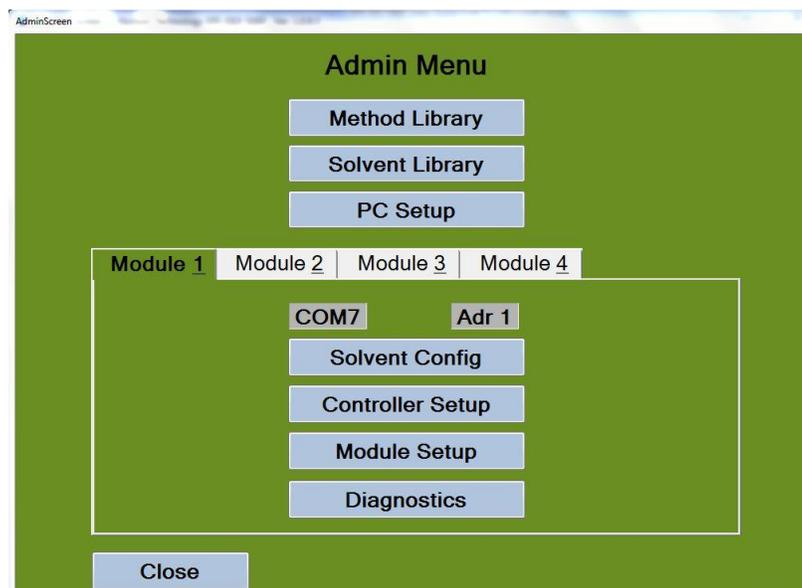

Figure 5-16. Admin Menu Screen
Step 1: Click **Admin Menu**. The Admin Menu screen is displayed in Figure 5-16:
- Step 2:** Click the module that you want to verify or change. In the example in Figure 5-16, Module 1 is selected. Notice that the module's Com port and Adr are indicated.